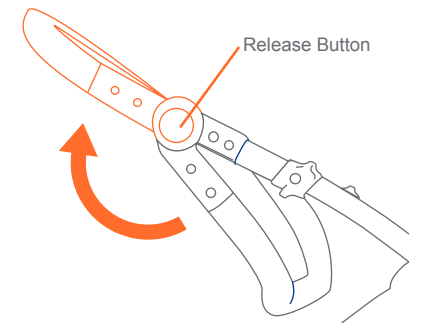

Fig. 7
- 7) • To adjust the handle, press the release buttons to move the handle up or down to a comfortable position for the user (Fig. 7).